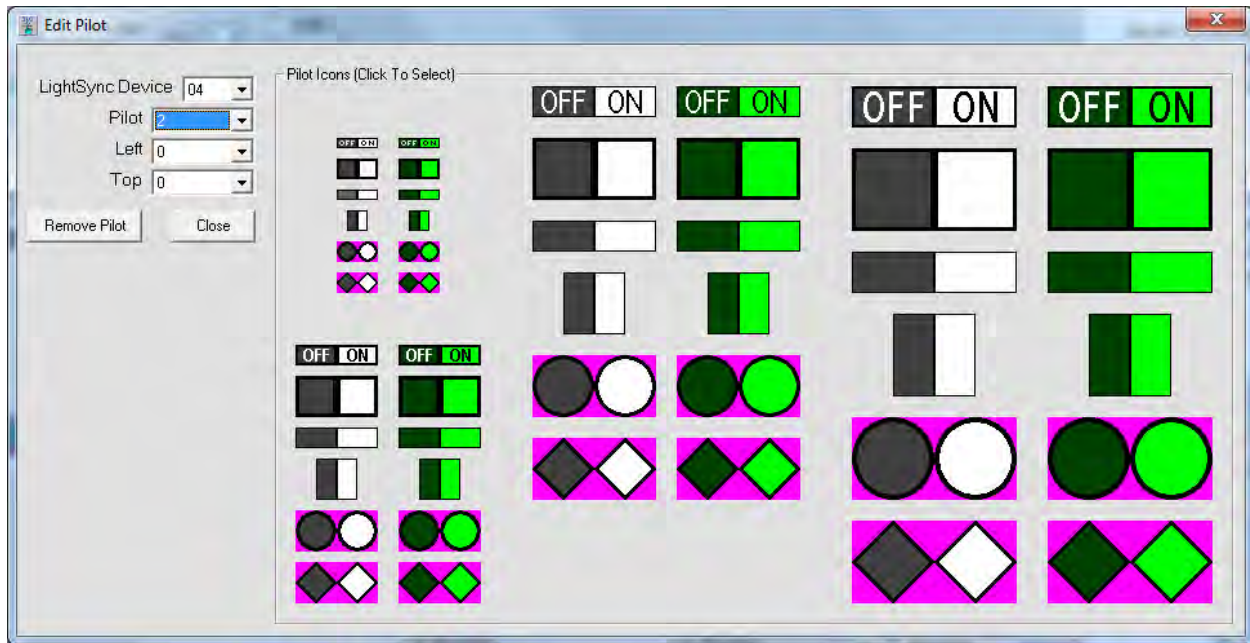

Figure 6 Edit Pilot Options
2.4 Configuring Status Pilots: Status pilot indicators placed on the screen indicates the true status of a relay, LightLEEDer Group, or LightLEEDer Preset state. Refer to figure 6 for the following.
2. Click on one of the 48 pilot icons desired for your status indication as shown in Figure 6.